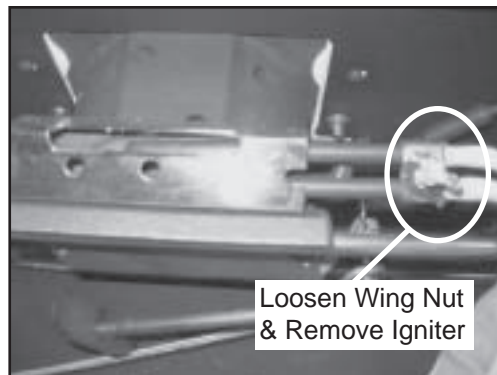

Figure 2
**Included in Kit:** (1) firepot, (1) firepot gasket, (2) riv nuts, (2) 1/4-20 Bolts, (2) washers, (1) igniter and (1) wing nut
3. The igniter is fastened to the igniter chamber with a wing nut. Loosen the wing nut until the igniter slides free and gently remove from the igniter chamber. **Figure 2.**